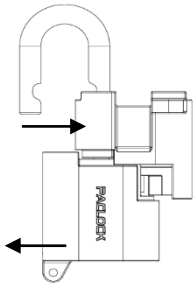

Figure 1
3. Slide the Upper Case and Lower Case sections apart, as shown in Figure 1. Set the Upper Case aside.
6. Slide the Upper Case assembly back on to the Lower Case (see Figure 1).